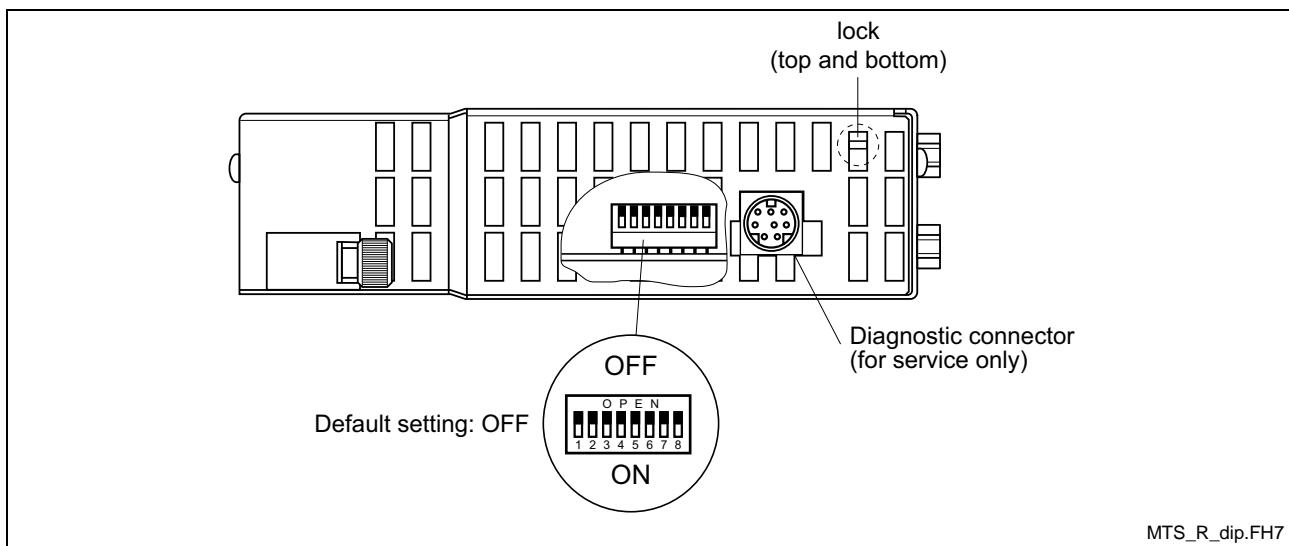

Fig. 2-23: DIP Switch setting for PROG Port X10
- Set the device address for the MTS-R to match the rotary switches located above the X10 connector of the MTS-R. Refer to Fig. 2-23 for an illustration.